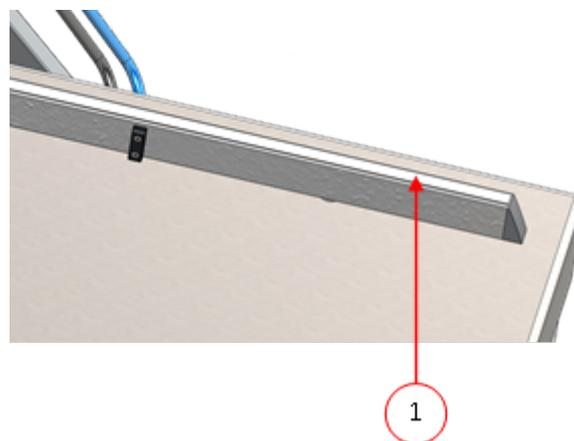

Figure 22: Replacing the Silicone Rubber of the Silicone Holders
1. Pull the old silicone rubber from the holder, see *Figure 22: Replacing the Silicone Rubber of the Silicone Holders* on page 67.